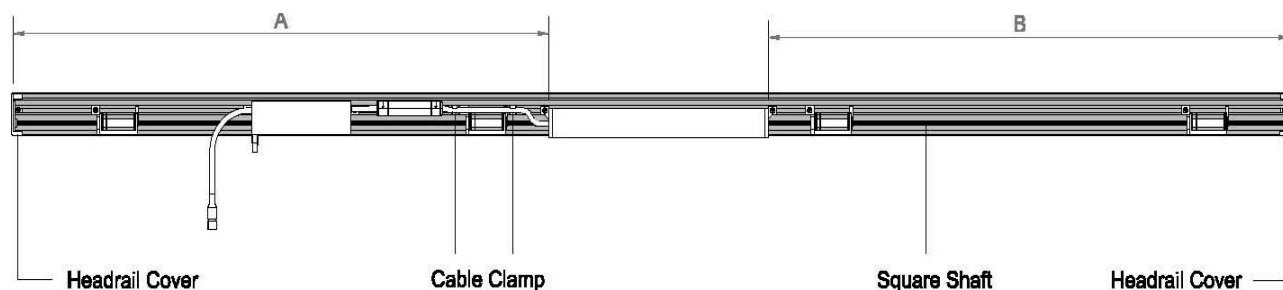

Figure 12
- To obtain the cutting length of the square shafts, measure the distance from both ends of the motor to the relevant end of the headrail (In Figure 12, it is A and B, plus 8mm). Cut and thread both square shafts through the cord lifters and insert into the motor's square shaft hole. Ensure that all turning wheels of the cord lifters are aligned (according to the cord fixing holes on the turning wheels).
For a diagram of the completion of Step 3, refer to Figure 12.